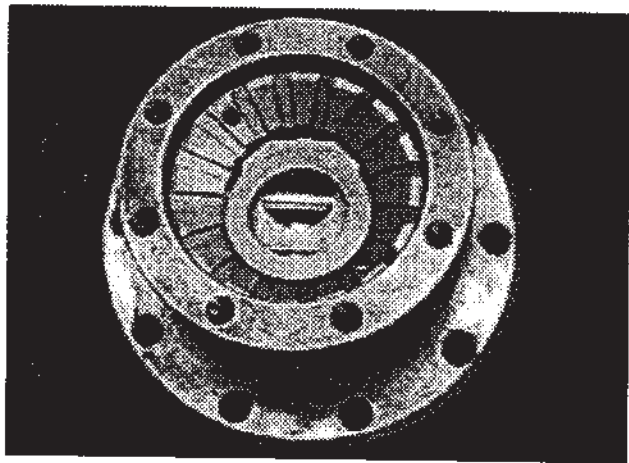

Figure 11
6. Turn the other driver over and hold it so that the stop pins line up with the springs in the lower driver. Carefully lower it until the pins rest on the springs (see **Figure 11**). Push it up and down to be absolutely sure that everything is in place and that all springs are functioning properly. Proper operation of the parts at this point is very important!